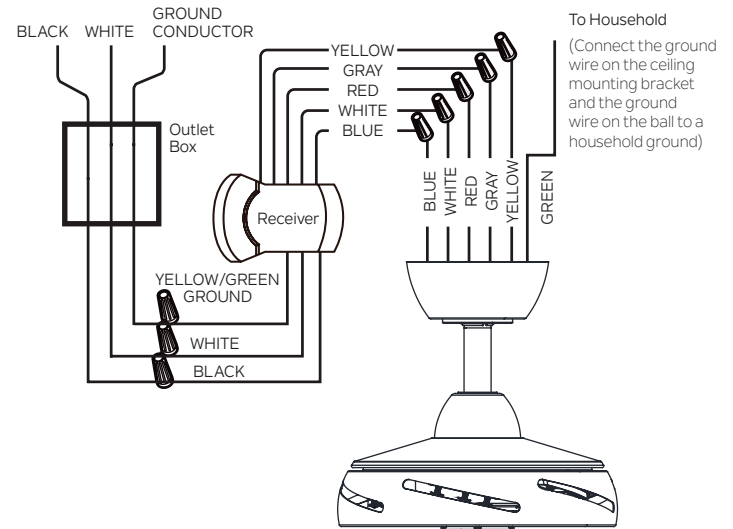

Fig. 13
Make each of the wire connections illustrated in **Fig. 13**. Secure each with the wire nuts provided.
Step 1. Connect the Blue wire from the fan (motor) to the Blue wire from the receiver. White wire from the fan (motor) to the White wire from the receiver. Red wire from the fan (motor) to the Red wire from the receiver. Gray wire from the fan (motor) to the Gray wire from the receiver. Yellow wire from the fan (motor) to the Yellow wire from the receiver. **(Fig. 13)**